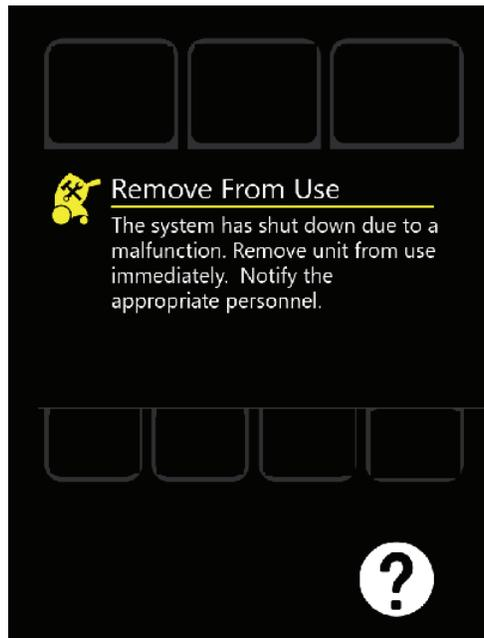
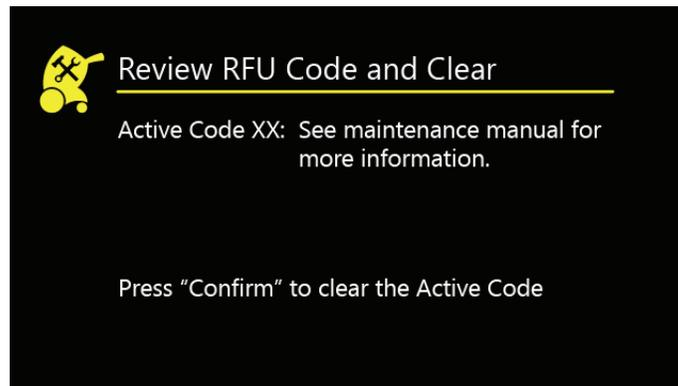

Figure 57 – Remove from use
Figure 58 – Review RFU Code and Clear
1. In the Remove from Use screen (Figure 57), tap the ? button to see the Review RFU Code and Clear screen (Figure 58).